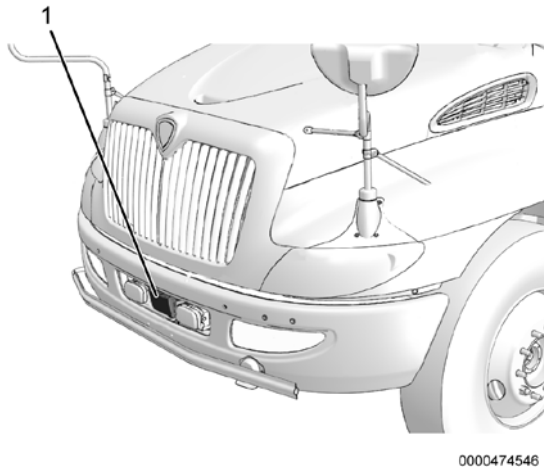
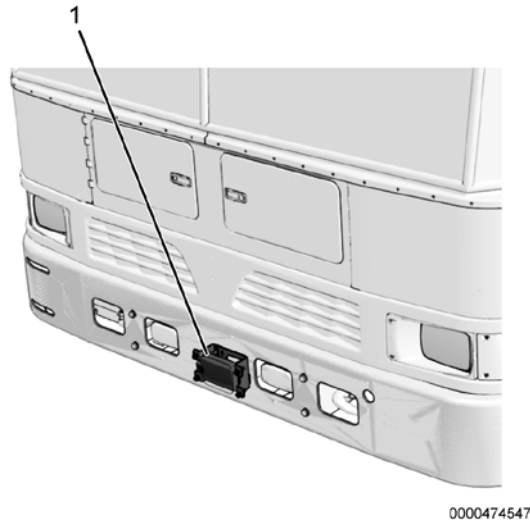

Figure 1. CE Bus
Figure 2. RE Bus
- a. If radar unit is installed (CE Bus Figure 1, Item 1 / RE Bus Figure 2, Item 1), no additional action is required. Proceed to Step 13.